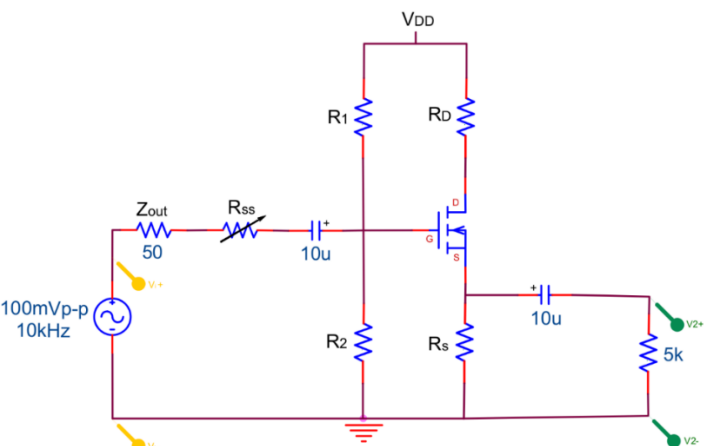

Figure 12.5
4. Return the signal generator voltage output to 100 mVp-p. Measure and record the output voltage of the amplifier. This is v_1 . Leaving the signal generator voltage constant, insert increasing resistor values in series between the generator output and the amplifier input (see Figure 12.5) until the output of the amplifier drops approximately to one half v_1 . Record this value as v_2 . Compare the measured input impedance to the one calculated in the pre-lab. Calculate the input impedance of the amplifier using the following equation: